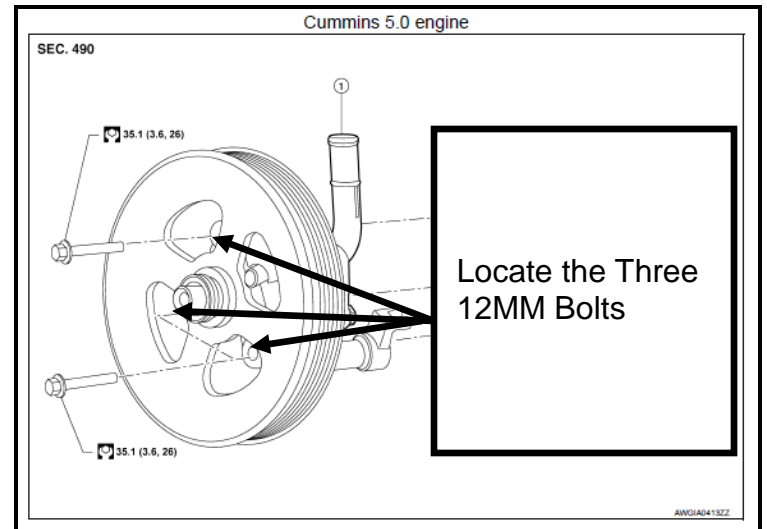

Figure 4
3. Locate power steering oil pump and the three 12MM bolts accessible through the holes in the power steering oil pump pulley (Figure 4).